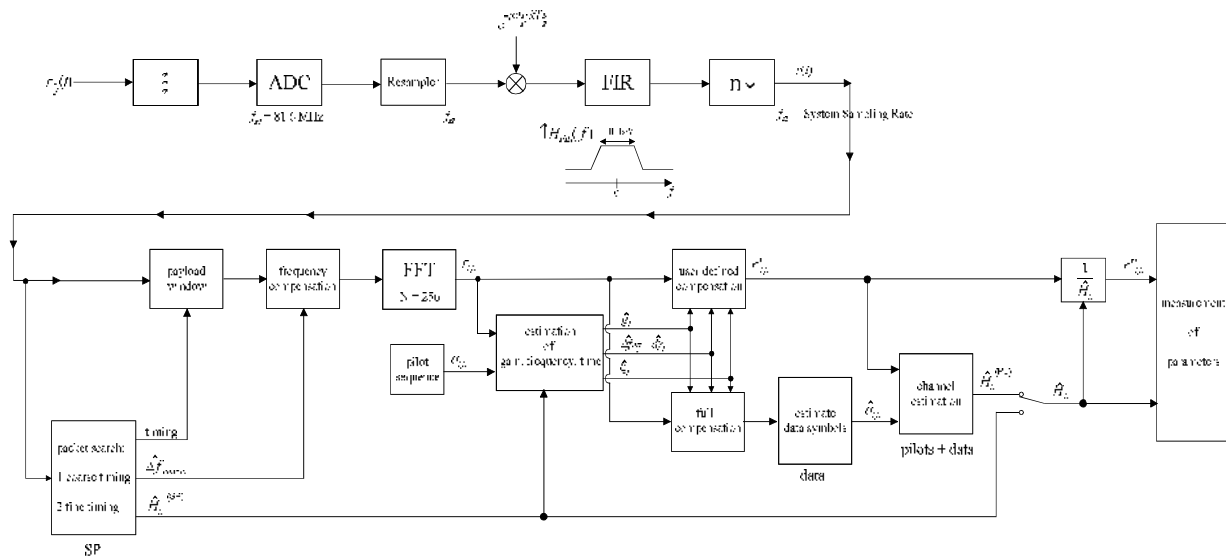

Fig. 2–61 Signal processing of the IEEE 802.16 OFDM measurement application
A diagram of the interesting blocks is shown in Fig. 2–61. First the RF signal is down-converted to the IF frequency  $f_{IF} = 20.4$  MHz. The resulting IF signal  $r_{IF}(t)$  is shown on the left-hand side of the figure. After bandpass filtering, the signal is sampled by an Analog to Digital Converter (ADC) at a sampling rate of  $f_{s1} = 81.6$  MHz. This digital sequence is resampled to the new sampling frequency of  $f_{s2} = 80$  MHz which is a multiple of the Nyquist rate (20 MHz). The subsequent digital down-converter shifts the IF signal to the complex base band. In the next step the base band signal is filtered by a FIR filter. To get an idea, the rough transfer function is plotted in the figure. This filter fulfils two tasks: first it suppresses the IF image frequency, secondly it attenuates the aliasing frequency bands caused by the subsequent down-sampling. After filtering, the sequence is sampled down by the factor of 4. Thus the sampling rate of the down-sampled sequence  $r(i)$  is the Nyquist rate of  $f_{s3} = 20$  MHz. Up to this point the digital part is implemented in an ASIC.
In general, the coarse frequency estimate  $\hat{\Delta f}_{\text{coarse}}$  (see Fig. 2–61) is not error–free. Therefore the remaining frequency error  $\Delta f_{\text{rest}}$  represents the not yet compensated frequency deviation in  $r_{l,k}$ . Consequently the overall frequency deviation of the device under test (DUT) is calculated by  $\Delta f = \hat{\Delta f}_{\text{coarse}} + \Delta f_{\text{rest}}$ . Remark: The only motivation for dividing the common phase drift in equation (2) into two parts is to be able to calculate the overall frequency deviation of the DUT.